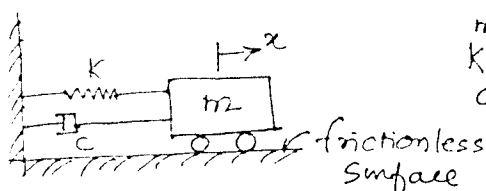

Fig. 3(a)
- b. Obtain the condition for the system shown in Fig.3(b) to vibrate. (10 Marks)